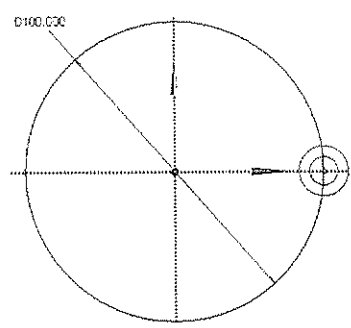

Figure 4-46 The two concentric circles after applying the coincident constraint
9. Invoke the **Coincident** tool from the **Constraints** toolbox and then select the center point of the concentric circles and the circumference of the circle of diameter 100 mm; the center of the concentric circles will get coincident with the circumference of the circle of diameter 100 mm, refer to Figure 4-46.